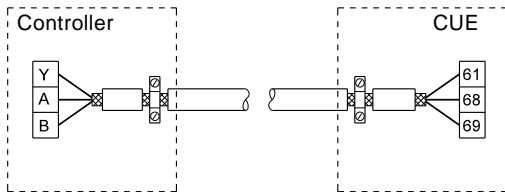
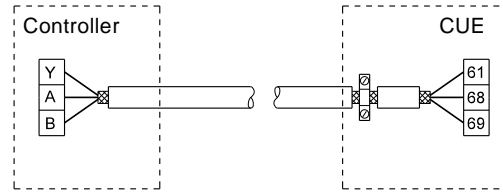

Fig. 40 Example of connection of a 3-conductor bus cable with screen connected at both ends
Fig. 41 Example of connection of a 3-conductor bus cable with screen connected at the CUE (controller with no cable clamps)
- Connect the screen to ground at both ends for both motor and signal cables. See fig. 40. If the controller has no cable clamps, connect only the screen to the CUE. See fig. 41.